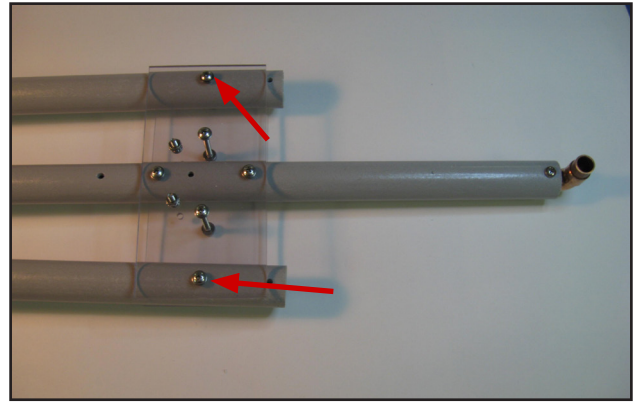

Fig. 46
- Reposition the Element Sub-Assemblies and ensure that the orientation is unchanged. Align the hole in each Element Sub-Assembly with the holes in the top and bottom Element Mounting Plates as shown in Fig. 46. Fasten each Element Sub-Assembly to the Boom-End Sub-Assembly by placing a No. 10 SS Flat Washer over a 10-24 x 2.0" Machine Screw, then pass the screw through the top mounting plate, the element, then the bottom mounting plate. Place a No. 10 SS Flat Washer and then a 10-24 Anti-vibration Hex Nut over each screw. Tighten the fasteners finger-tight.